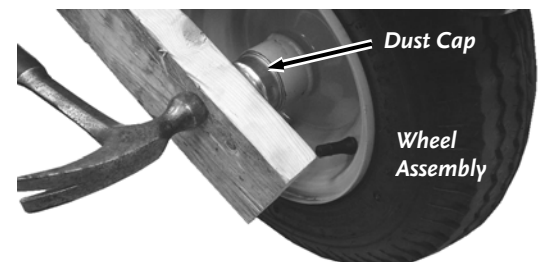

Figure 67
11. Place the Dust Cap onto the Wheel Assembly and secure it by placing a piece of wood over it and lightly tapping with a Hammer until it is seated against the lip (**Figure 67**).